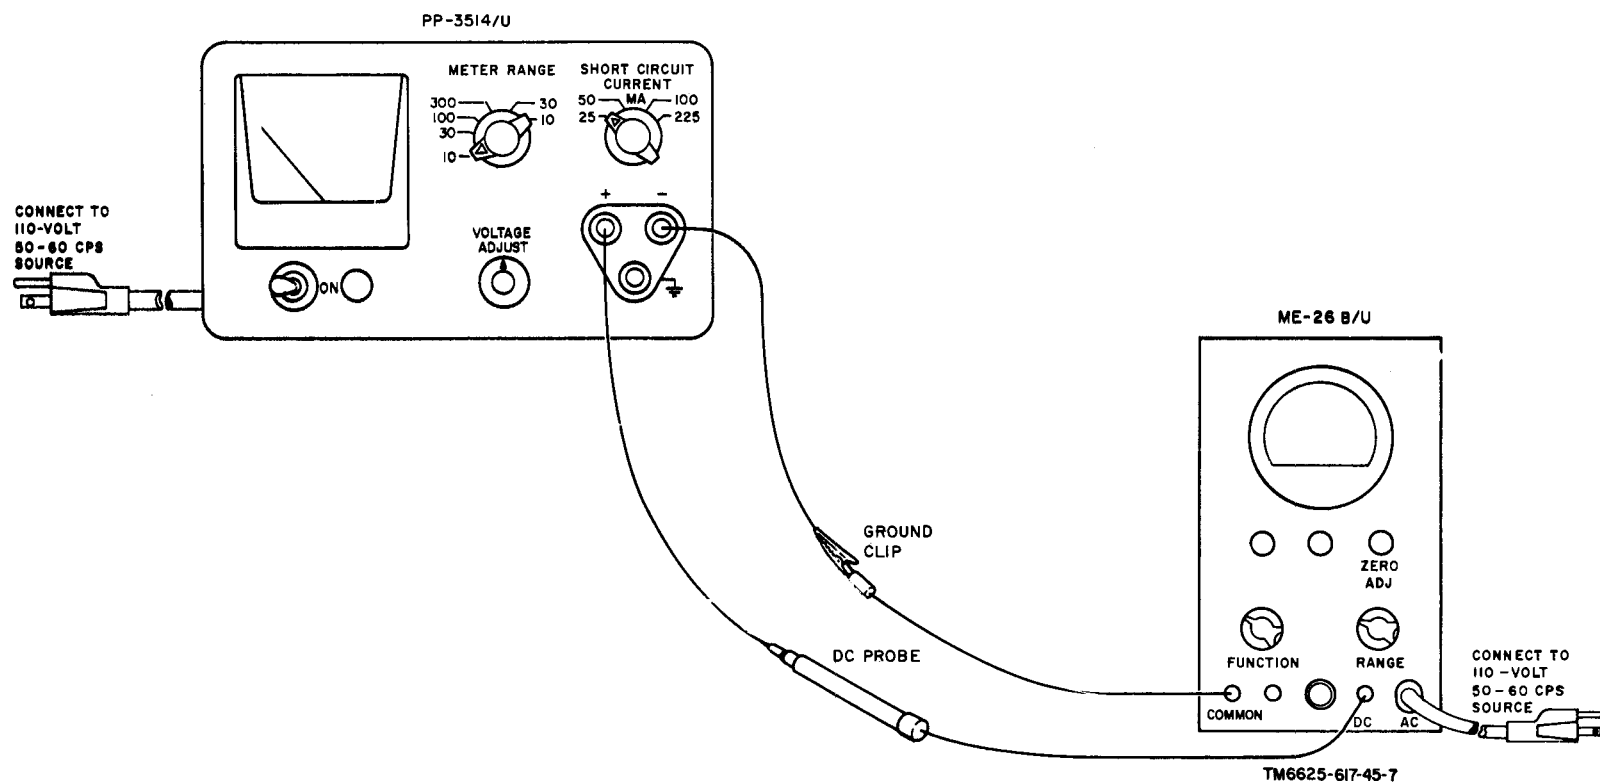

Figure 4-3. Maximum output voltage, test connections.
b. Test Connections and Conditions. Connect the equipment as shown in figure 4-3.